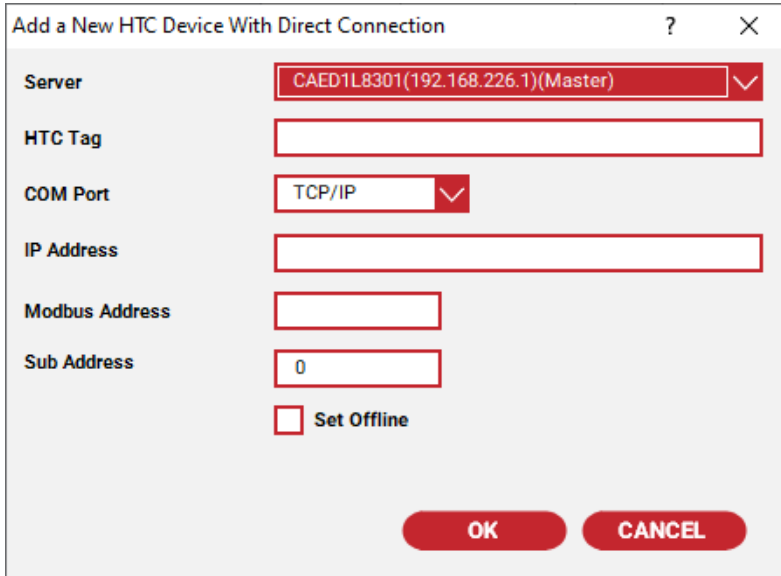
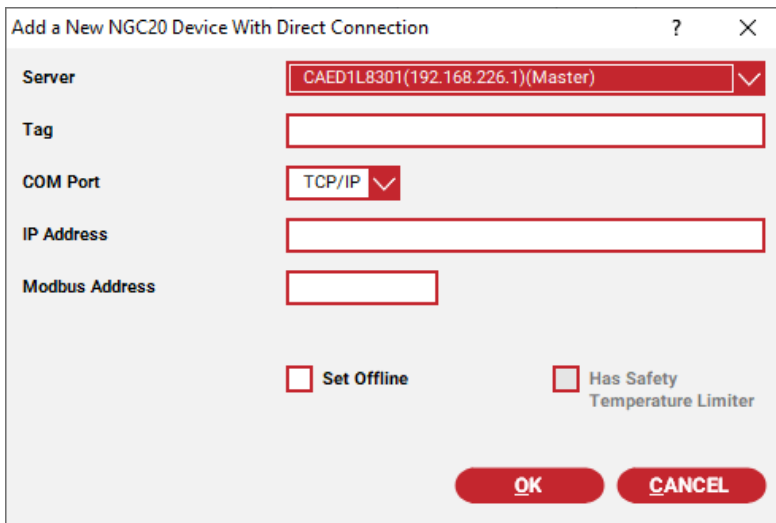

Figure 3-15 Add a New HTC Direct Window
Figure 3-16 Add a New NGC-20 Device with Direct Connection Window
3. Select **Add HTC Direct** or **Add NGC-20 Direct**. The appropriate configuration window is displayed. (refer to or Figure 3-15 Figure 3-15 Add a New HTC Direct window or Figure 3-16 Figure 3-16 Add a New NGC-20 Device with Direct Connection window).